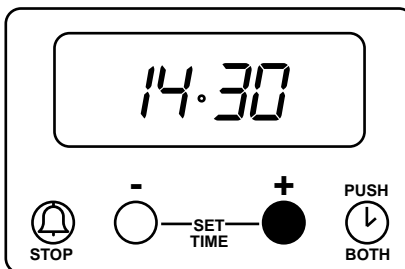

Fig. 13.3
Within 5 seconds, press and hold either button (1) to decrease or button (2) to increase the time until the correct time of day on the 24 hour clock is reached, e.g. 14:30. The cooking symbol () will go out. See Fig. 13.3.